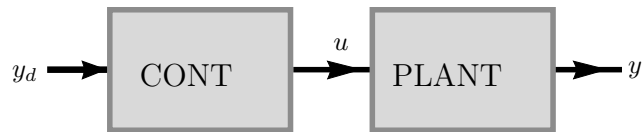

Figure 1: Open loop control scheme
where A is the oscillations amplitude and ω their frequency. Introduction of the oscillatory base (2) into the system (1) allows to control its behavior exploiting the idea of an open loop (feedforward) control scheme, illustrated in Figure 1. In the figure PLANT stands for the object to be controlled, y is its output, and u its input. CONT is a controller, which according to the desired system behavior (i.e. its desired output value y_d – see Figure 1) tries to generate the control input u causing the system to behave as desired (i.e. causing the output y to approach y_d .) In the case of the analyzed inverted pendulum with a moving vertically base, the role of the input u plays the second derivative of the base position \ddot{y} , and the angle θ is taken as the output y . The oscillator takes the role of the controller. Changing its oscillations frequency and amplitude one can control the behavior of the pendulum and decide, which equilibrium the pendulum stabilizes at (oscillates around).
With the control input u one can control the car behavior exploiting the idea of an open loop (feedforward) control scheme, illustrated in Figure 1 and described on page 2.